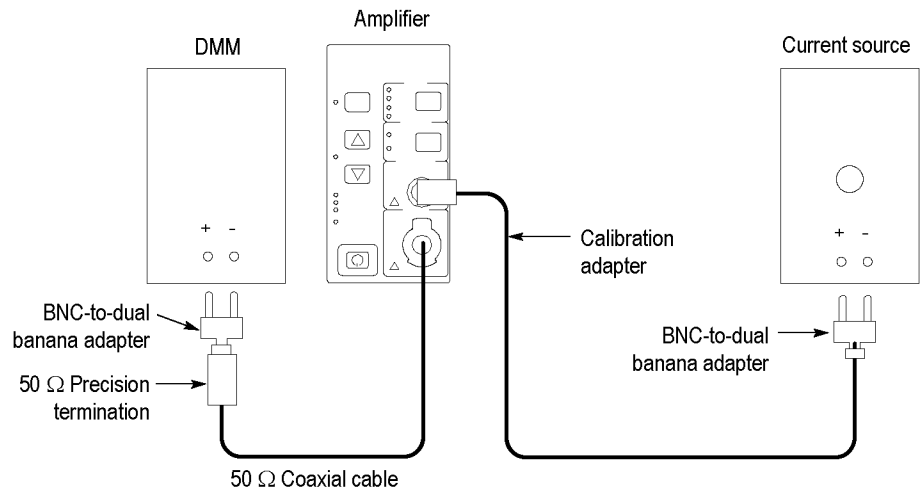

Figure 13: Amplifier adjustments
1. Set up the circuit shown. (See Figure 13 on page 45.)